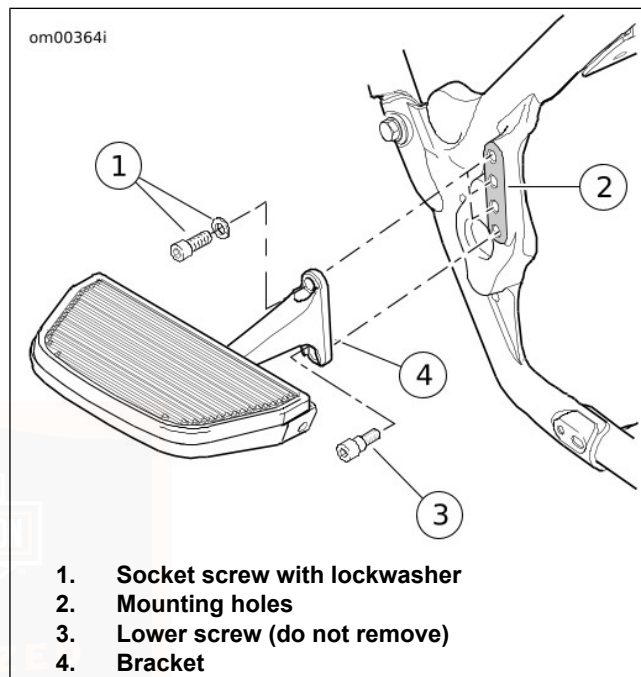

Figure 48. Passenger Footboard
1. See Figure 48. Remove socket screw with lockwasher (1) from top of footboard bracket (3).